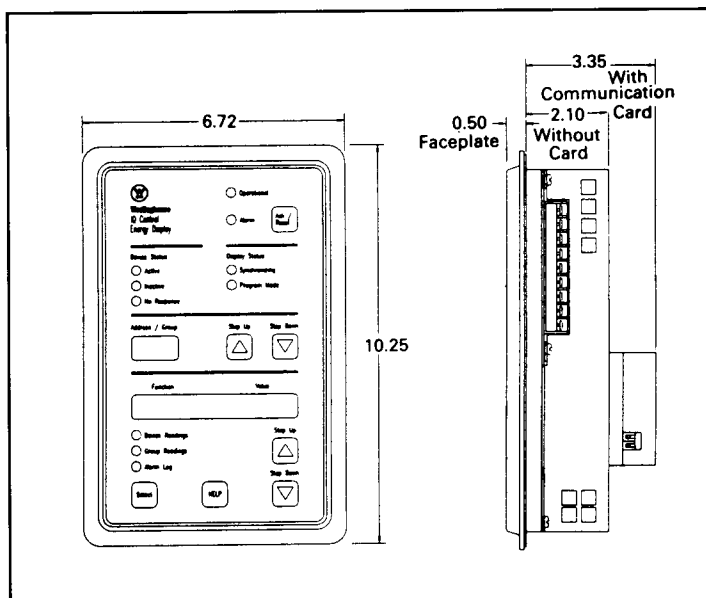

Figure 2.1
**2.1 Hardware Description** — The IQ CED is designed to mount through a cutout in a panel. (This will generally be a cabinet's face or door.) Dimensions of the IQ CED are shown in Figure 2.1.